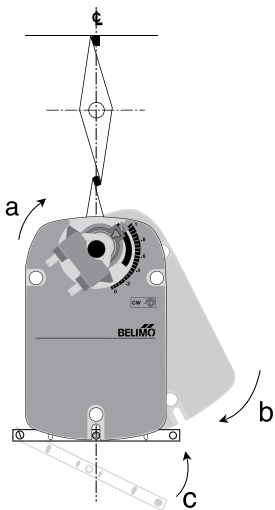

FIGURE 25 Standard mounting of optional motorized exhaust actuator
Confirm the damper is now fully closed (position a in **FIGURE 25**), but the actuator is 5° from fully closed. This is called “pre-loading” the actuator. When the actuator is powered and sent to the closed position it will put its full torque on the shaft compressing the edge and blade seals. The actuator is electronically protected from overload and will not be damaged.
- 5) Rotate the actuator to apply pressure to the damper seals (see **B** in FIGURE 25) and re-engage the anti-rotation strap (see **C** in FIGURE 25).